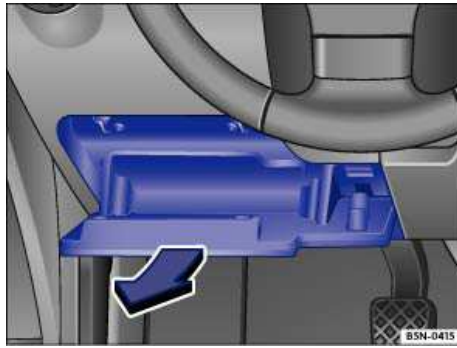

Fig. 200 On the driver side in the instrument panel: Fuse box cover.
- Open storage compartment and pull back firmly in the direction of the arrow ⇒ fig. 200.